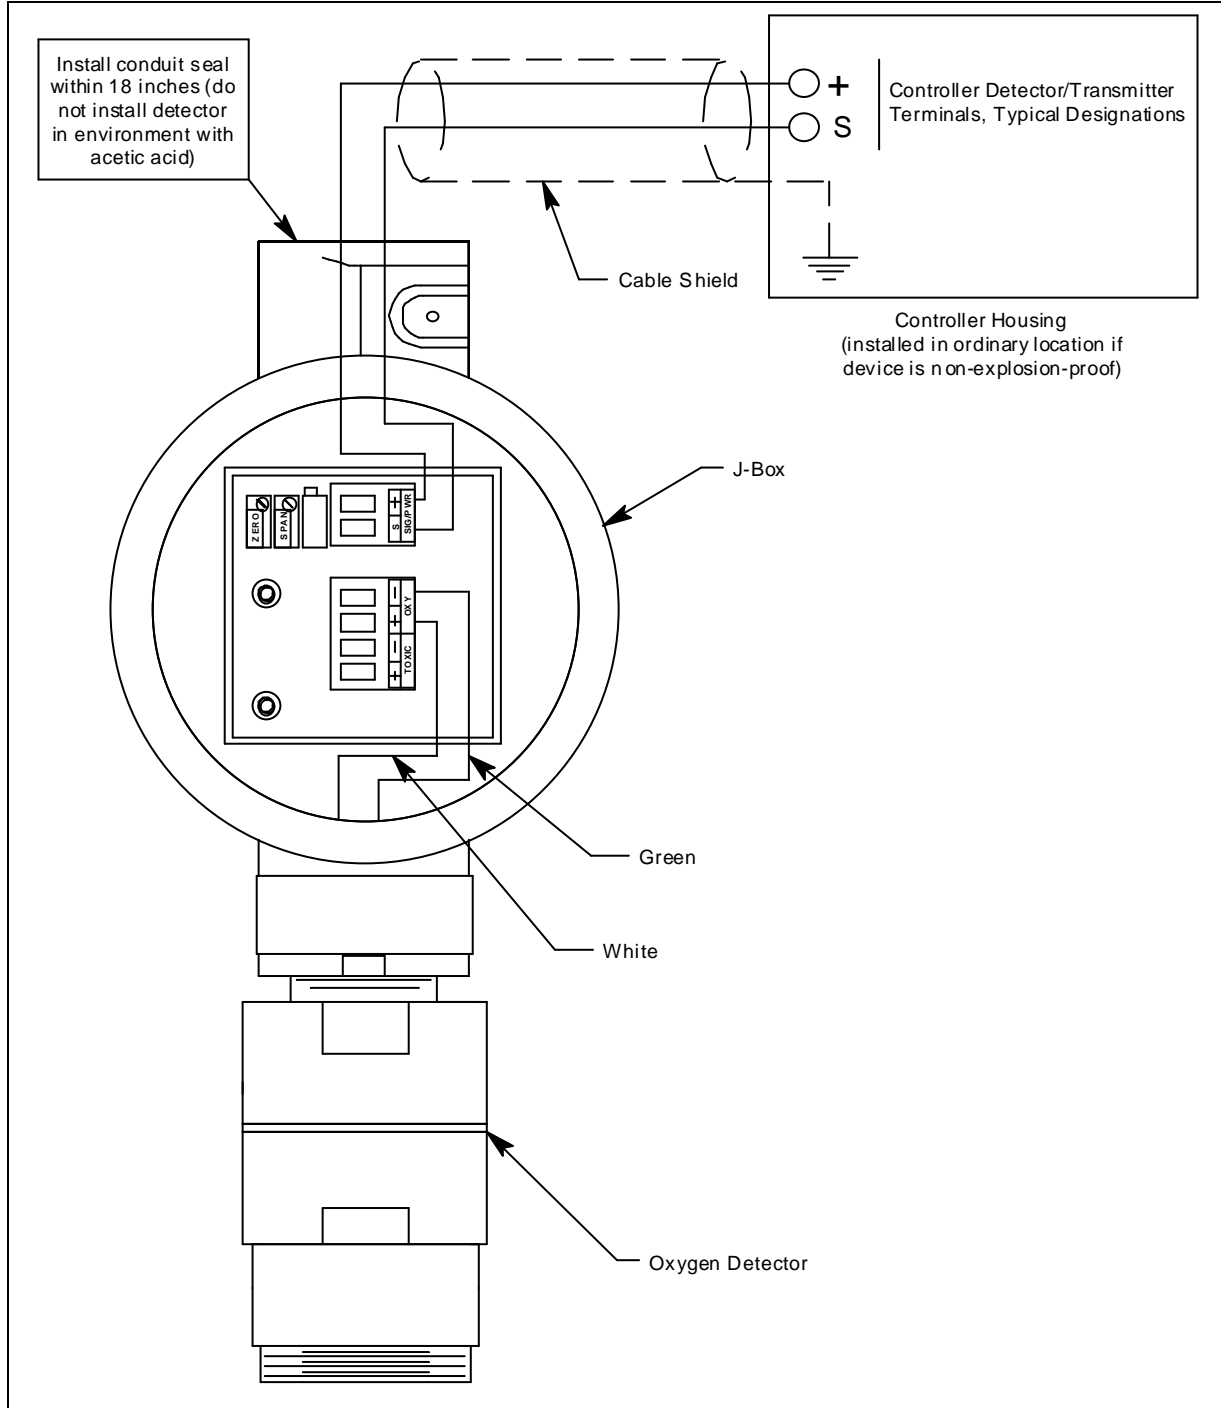

Figure 4: Wiring the Oxygen Transmitter to a Controller
4. The detector leads are factory wired. Verify that the detector leads are wired to the amplifier's detector terminal strip as shown in Figure 4.
7. Pull out the controller terminal strip, and connect the two wires to the terminal strip as follows (see Figure 4).
11. Connect the wires to the applicable detector/transmitter terminal strip at the controller as shown in Figure 4.
8. Connect the detector leads to the appropriate detector terminal strip terminals. Connect the white wire to the terminal labelled Oxy + and the green wire to the terminal labelled Oxy -. See Figure 4 on page 12 for the detector wiring connections to the amplifier.
8. Install the detector and controller terminal strips into their sockets on the new amplifier as shown in Figure 4 on page 12. If controller leads or detector leads were removed during this procedure, refer to Figure 4 on page 12 for the detector and amplifier connections.